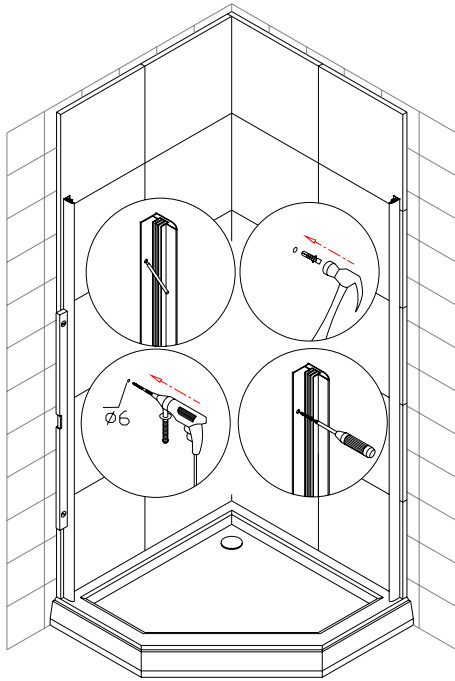

Fig 1
2. You can start installation from any side of the wall. Locate the **wall profile (2)** from the package, then place it vertically above the tray 35  $\frac{3}{4}$ " or 38  $\frac{1}{4}$ " (depending on size of your enclosure) from the corner to the external edge of the profile. Using a level adjust the wall profile upright, then use predrilled into aluminum profile holes to put on marks for drilling. Now drill the holes and insert the **wall anchors (9)** into the hole. Use ST4.2x30 screws round head self-tapping screw (12) to attach the wall profile to wall (fig 1).